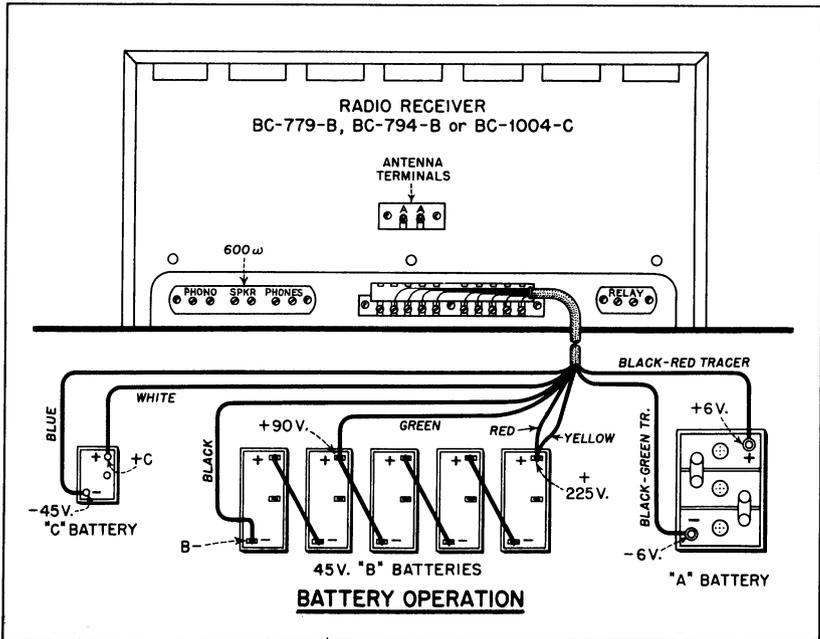

Figure 6. Cable Connections for Battery Operation
2. POWER SOURCES.—The receivers may be used with either of three power supply units as follows: Power Supply Unit RA-84-B, designed to operate from a 105-115-125-volt, 50-60-cycle power source; Power Supply Unit RA-74-C, designed to operate from a 95-130-volt, 190-260-volt, 25-60-cycle power source; or Power Supply Unit RA-94-A, designed to operate from a 115-or 230-volt, 50-60-cycle power source. The average power consumed is 180 watts. In an emergency any one of the receivers can be operated from a 6-volt storage battery, five 45-volt "B" batteries, and a 45-volt "C" battery connected as shown in FIG. 6.
The other end of it is made up of nine loose wires. Connect this cable according to FIG. 6 (note the color code for the nine loose wires). Connect this battery cable to the receiver first and replace the terminal cover *before* connecting the cable to the batteries. When discontinuing battery operation, disconnect the loose ends of the cable from the batteries *before* detaching the cable from the receiver. All operations of the receiver are the same with either the power supply unit or the battery set-up.